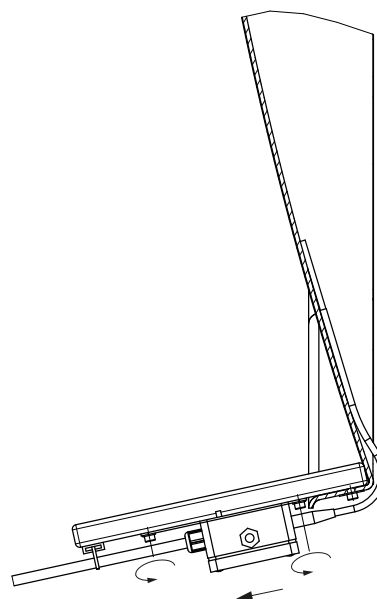

Fig. 4
3. Slide the sensor housing and plate in the aluminium profile until the ends of the two electrodes are located on the reflector surface and under tension, then securely tighten the screws (2 + 3) again ($M_A = 5 \text{ Nm}$) (Fig. 4).
4. The electrodes can be brought together as tightly as possible by loosening the cutting ring screw connection (5). Electrodes must not make contact.
5. Securely tighten the cable tie (4) on the unit.